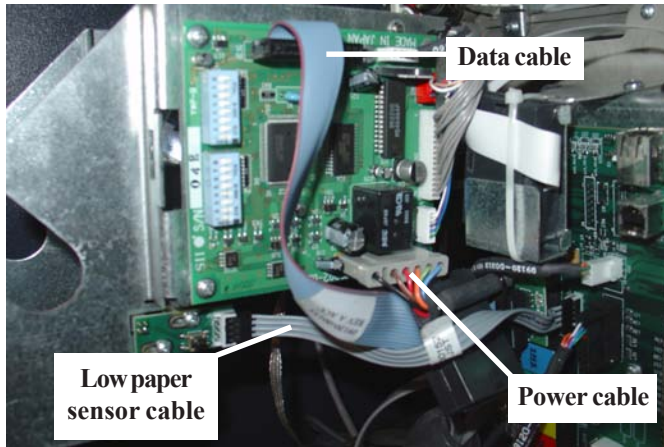

Figure 2. Disconnect cables shown.
3. Disconnect the power, data, and low paper sensor cables from the printer controller board shown in Figure 2. The power and data cables will be removed from the unit. See the following procedures.